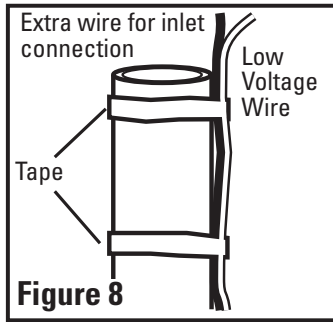

Figure 8
6. When dry fitting tubing, run low voltage wire (minimum, solid 18 gauge, two conductor) by securing to tubing with tape. Allow approximately 6" of excess wire for connection to each inlet (**Figure 8**).
5. Tape the low voltage wire (minimum, solid 18 gauge, two conductor) to the end of a sufficiently long enough piece of tubing and pass it up through the previously drilled hole (**Figure 8**).
5. When dry fitting tubing, run low voltage wire (18 gauge, two conductor) by securing to tubing with tape. Allow approximately 6" of excess wire for connection to each inlet (**Figure 8**).